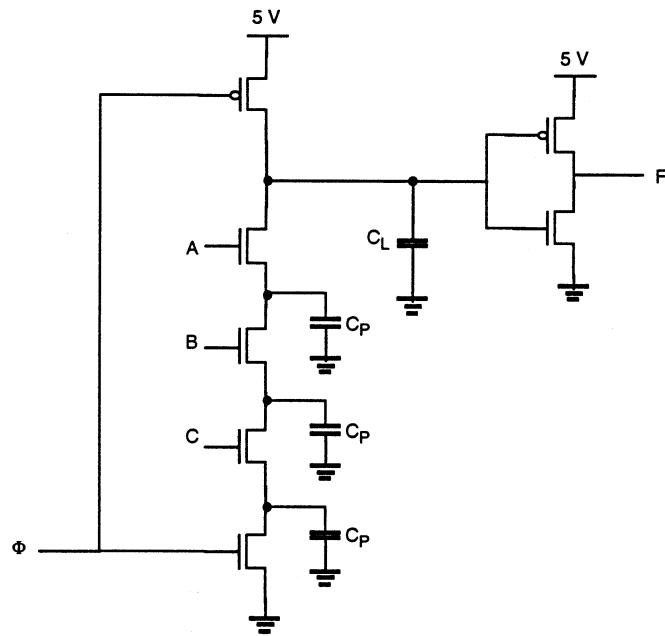

Figure P9.6
- 9.6** The inputs to a domino logic gate are always LO during precharge ( $\phi = \text{LO}$ ) and may undergo a LO-to-HI transition during evaluate ( $\phi = \text{HI}$ ). Consider the domino 3-input AND gate shown in Fig. P9.6 below. If, during evaluate,  $A = \text{HI}$ ,  $B = \text{LO}$ , and  $C = \text{LO}$ , charge sharing will cause the voltage at the input of the inverter to drop. Given that the switching threshold of the inverter is 3V, calculate the maximum ratio  $C_p/C_L$  needed to ensure that charge sharing does not corrupt the value of F for the given case.
- 9.8** Consider the domino CMOS circuit shown in Fig. P9.6. Using the input voltage waveforms illustrated in Fig. P9.8 determine the output voltage waveform.